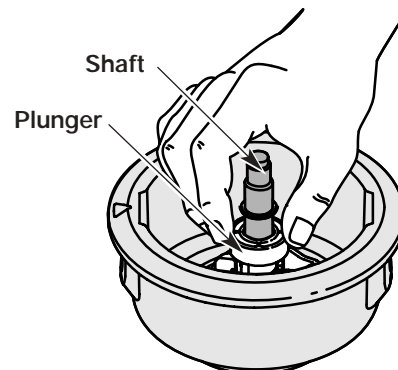

Fig. 22
5. Clean the shaft and the inner surface of the outer spool. To clean the shaft underneath the plunger, press down on the plunger (Fig. 22). Remove any dirt or debris from the shaft.